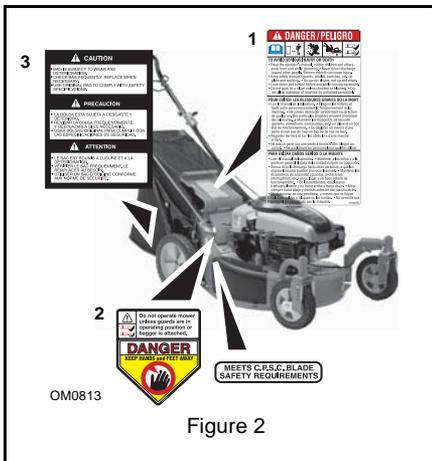

Figure 2
**ALWAYS** replace missing or damaged safety decals. Refer to Figure 2 for safety decal locations.